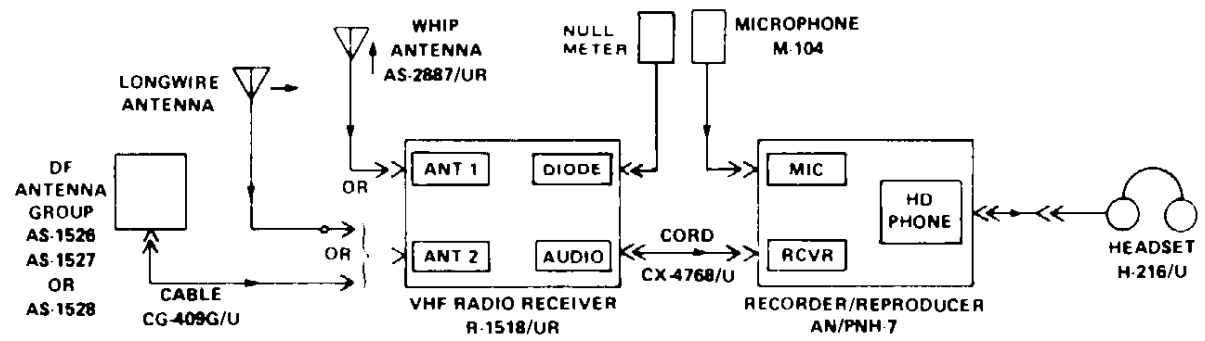

Figure 2-11. Connections of Radio Receiving Set AN/TRQ-30(V2)
b. VHF Radio Receiving Set AN/TRQ-30(V2). Connect the equipment as shown in figure 2-11. For df operation only the appropriate df antenna should be set up. The headset may be connected to the recorder/reproducer through the extender cord.
b. VHF Radio Receiver R-1518/UR. Signal types are: amplitude modulation (AM), frequency modulation (FM), and continuous wave (CW).
(1) Check to see that components are properly connected as shown in figure 2-11 or 2-12. Check control settings.
(2) Select antenna which works best. Move antenna as necessary for best reception. Adjust TRIM control for maximum signal strength.
(3) Set FUNCTION switch to FM, AM, or CW as required.